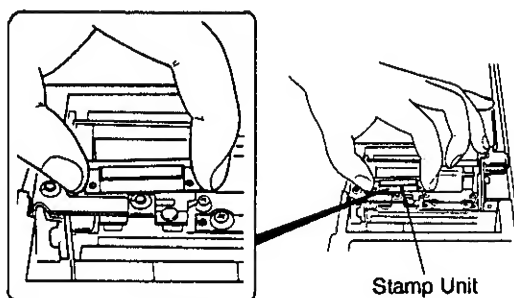

Fig. 6
3. Hold the both sides of the stamp unit with your fingers and remove it by pulling it upward. (Fig. 6)